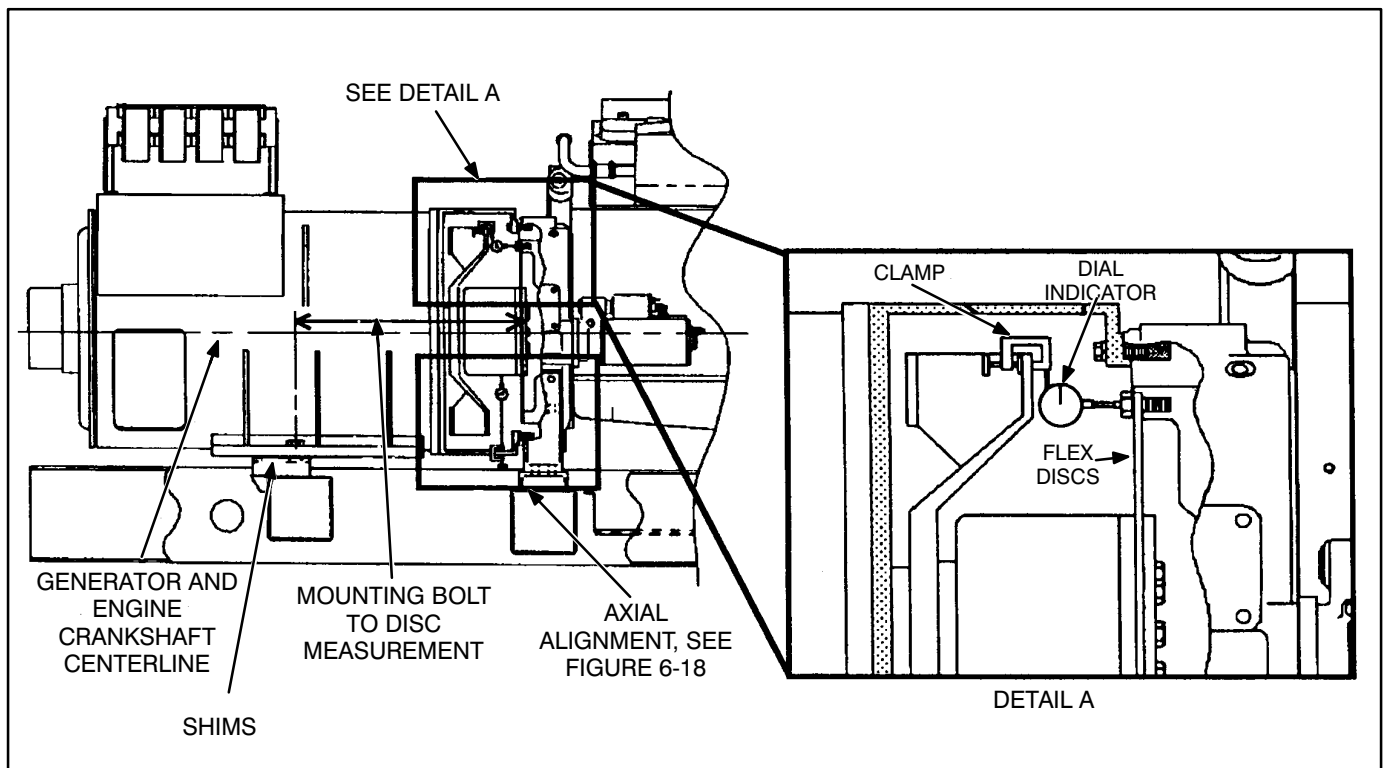

FIGURE 6-16. ANGULAR ALIGNMENT MEASUREMENT
disc at the bolt circle diameter, see Figure 6-16. Bar the engine over in a clockwise rotation as viewed from engine flywheel. Do not allow it to roll back on compression at the end of the travel of each reading. It is unnecessary to zero the indicator since the total indicator reading (T.I.R.) of the deflection measurement to the bolt heads is what is required. T.I.R. will be the sum of the maximum positive and negative dial indicator readings as the engine completes one revolution.
2. Measure the distance from the generator side of the flex discs to the center of the generator mounting bolt, refer to Figure 6-16. (For example; a HC6 Frame's distance is $28.4''$.)